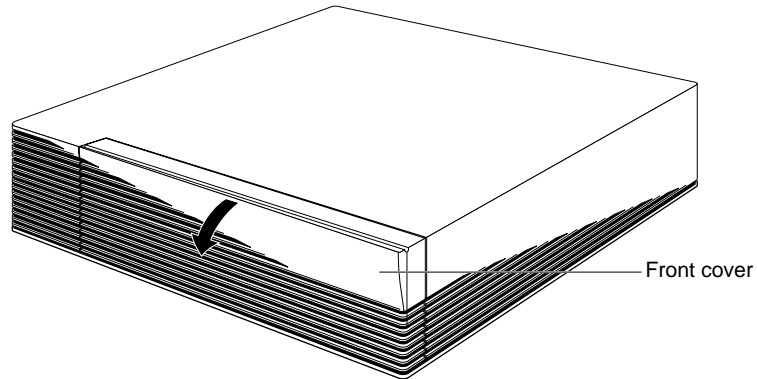

Figure 2-1 Opening front cover of the Indigo² chassis
1. Open the front cover of the chassis, as shown in Figure 2-1.
- Snap the cover away from the top edge of the chassis and tip it down, as shown in Figure 2-1.